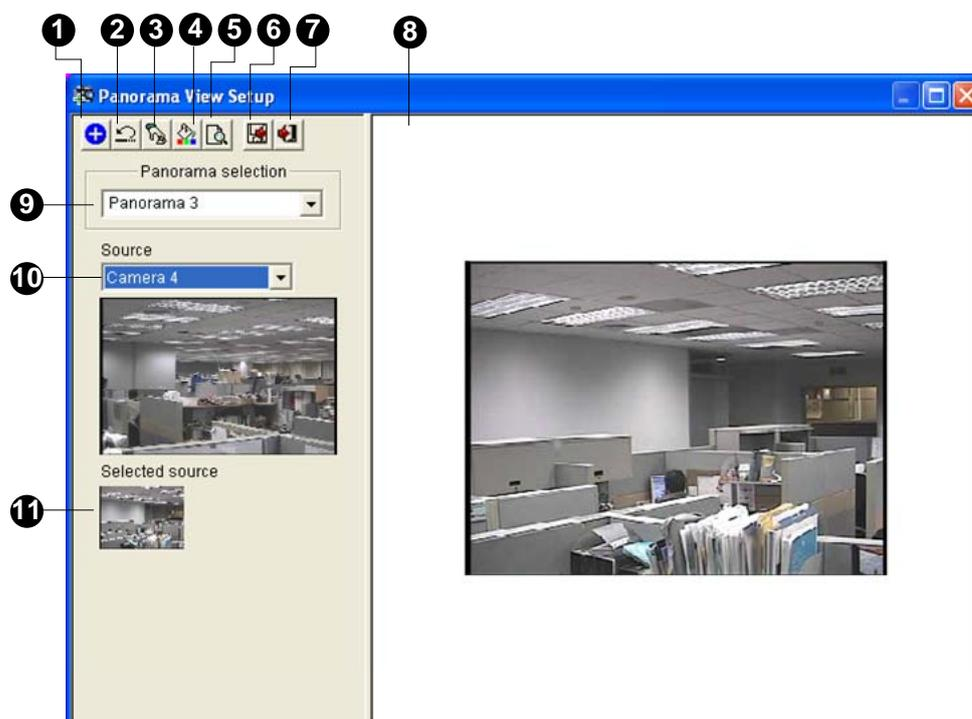

Figure 1-93
8. When you finish stitching images, click the **Save Before Exit** button (No.6, Figure 1-93) to save the created panorama view before exiting the Panorama View Setup dialog box.